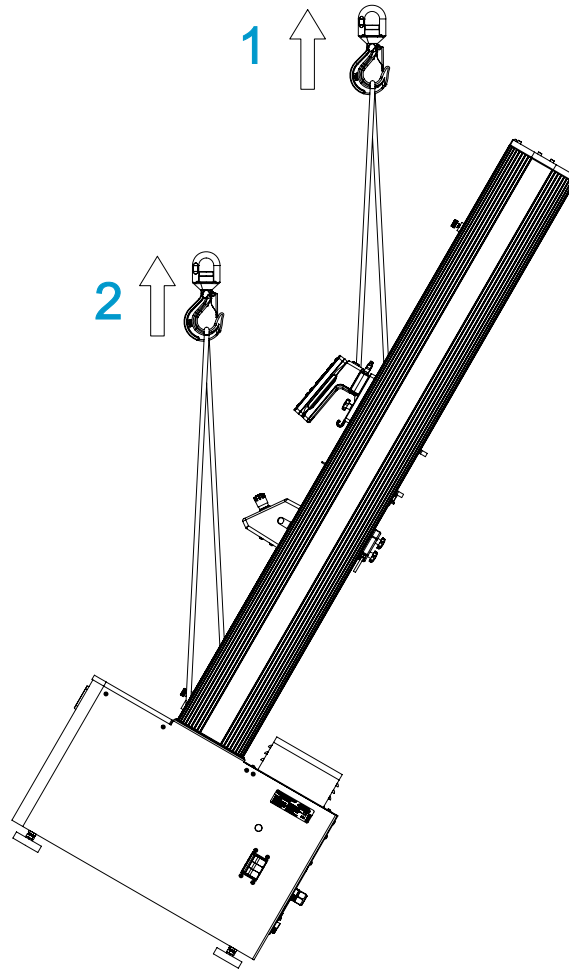

Figure 19. Righting a Load Frame Using a Crane
Refer to Figure 19 on page 72.
2. Attach the two lifting slings to the crosshead and secure them to the crane hook as shown in Figure 19 on page 72. If you use chains in lieu of lifting slings, wrap protective material around the crosshead to protect the crosshead from scratching and marring. Chains can also cause damage to other parts of the frame, the top plate for example; be sure to wrap protective material around all vulnerable components.
3. Install two M16 hoist bolts into the frame base and attach two additional slings to the bolts, as shown in Figure 19 on page 72.
Legend for Figure 19